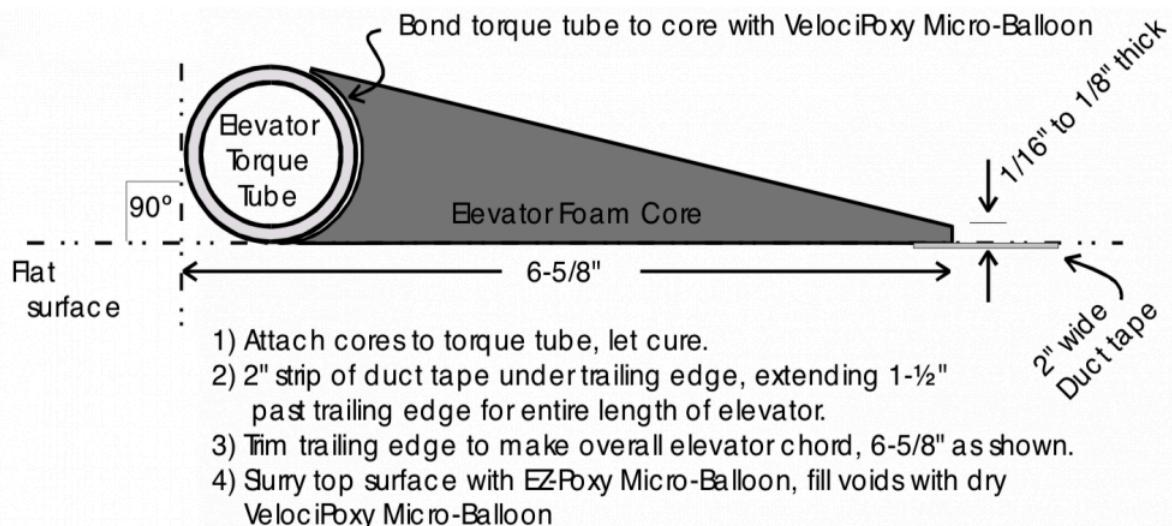

Figure 3-8. Fitting Torque Tube to Aileron Core
- ___ Trim **trailing edge** straight, 6-5/8" from **leading edge** leaving 1/16" to 1/8" **trailing edge** foam thickness. See Figure 3-8. Sand any irregularities, and fill any voids with dry **VelociPoxy Micro-Balloon**. Weight control is very important in the elevators.